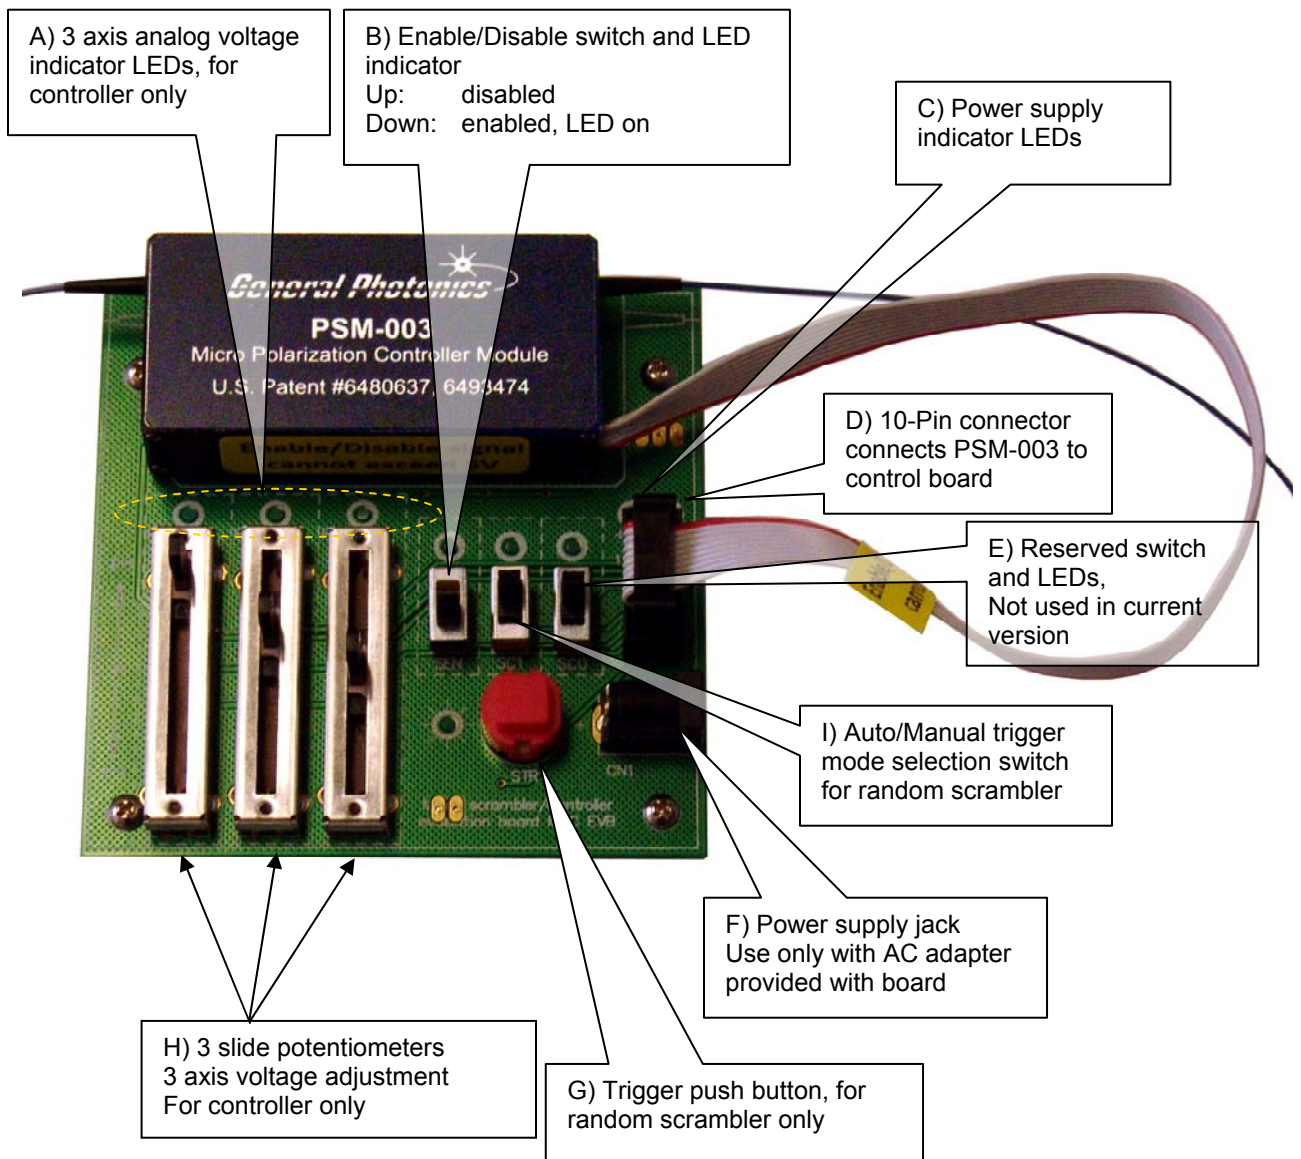

Figure 8 PSM-003 controller board
2. Make sure the PSM-003's 10-pin electrical connector is connected to the corresponding connector on the driver board (middle right in Figure 8). The board and cable connectors are keyed and can only be connected in one orientation.